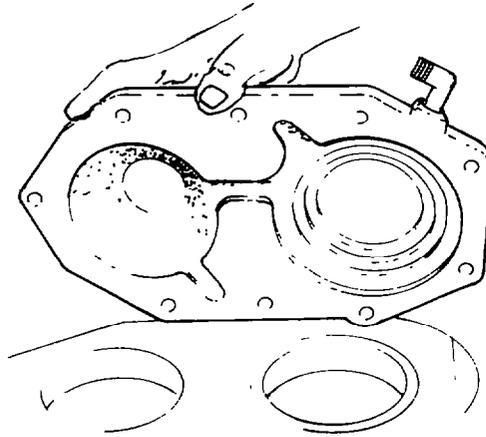

Fig. 245 — Installing Mainshaft and Countershaft Bearing Cover
- g. Turn the transfer case so that the front of the case faces up, and install the mainshaft and countershaft front bearing cover and gasket (see fig. 245). Install the retaining bolts and torque to 61 – 88 Nm (45 – 65 lb.ft).